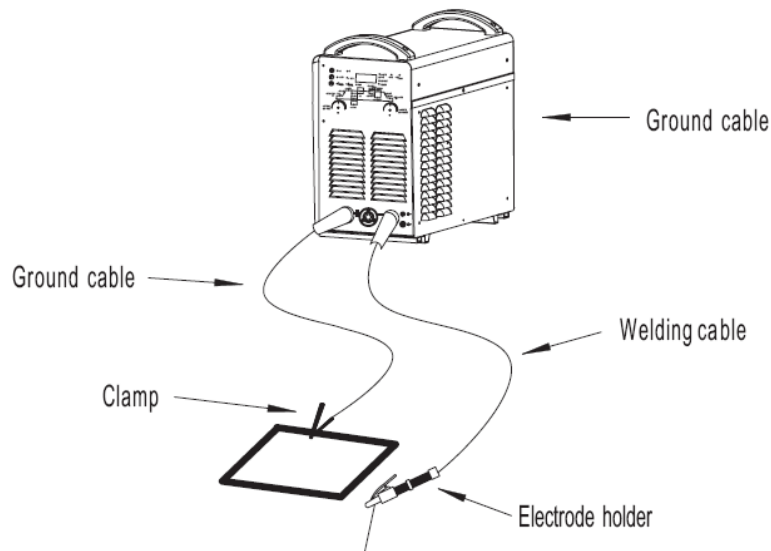

Fig. 4-6-7: SMAW welding connection
10. Start welding (Fig. 4-6-7).